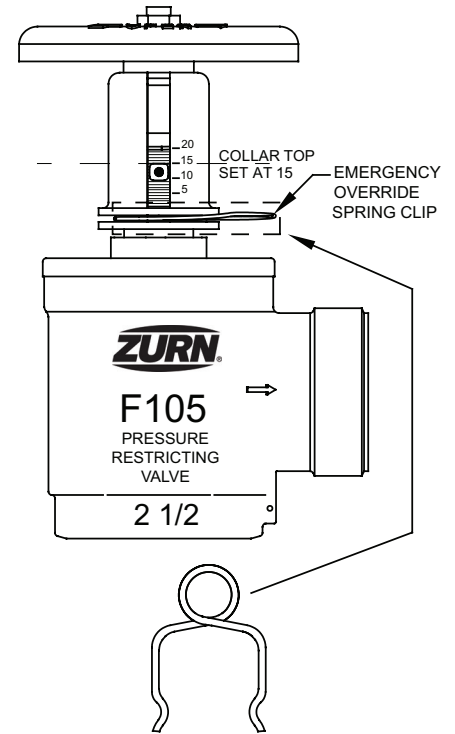

Figure 1. Pressure Adjustment
6. Rotate indicator cap until top collar reaches selected setting number. See Figure 1.